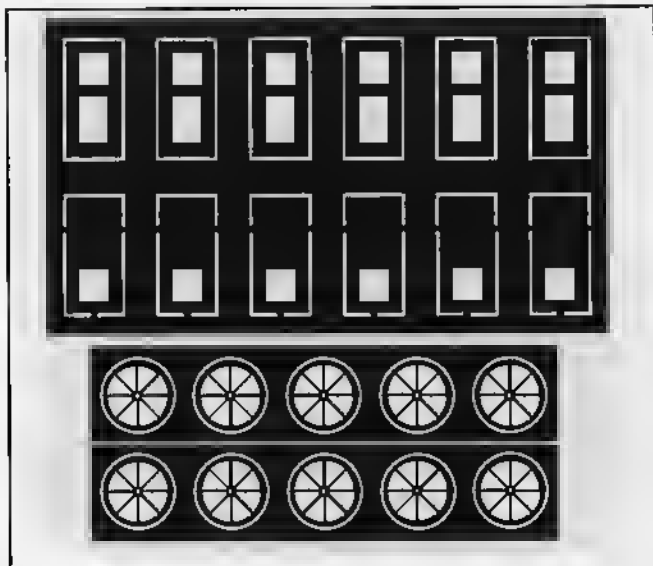

Fig.8.4
The next step is to expose the photosensitive film to the image of the parts you require. This is done by placing a transparency, with the design imprinted on it, against the prepared surface and exposing the assembly to ultraviolet (UV) light. For the sharpest result the side of the transparency with the image on it should be against the emulsion. **Fig.8.4**.